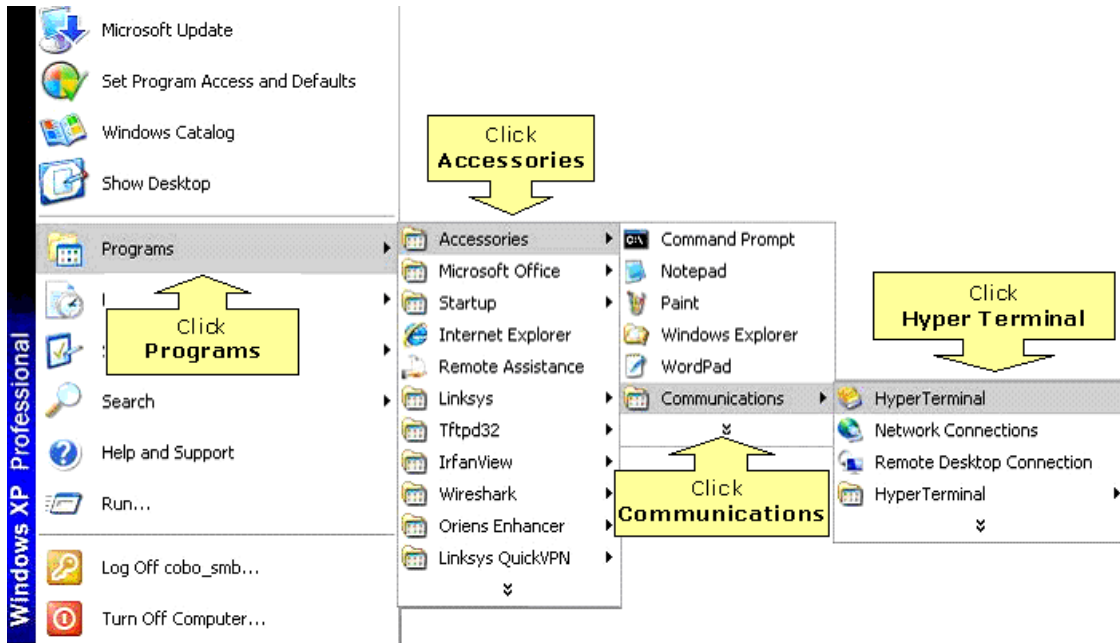

Figure 10: Opening HyperTerminal Session
1. Open a HyperTerminal session by using the following steps and as shown in Figure 10.